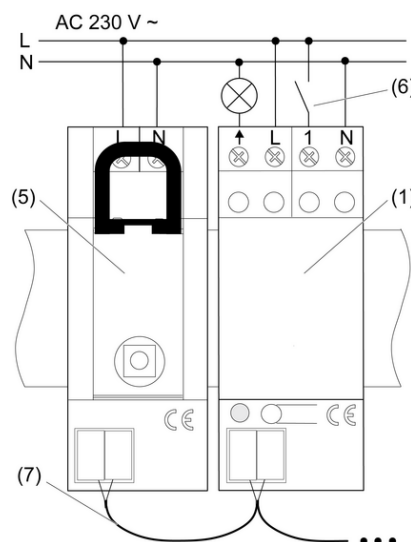

Figure 2
- i** The total length of the bus cables (7) between the devices may not exceed 3 m.
- i** The polarity of the bus cables (7) must not be reversed.
- Snap switch actuator (1) onto DIN rail.
- Connect switch actuator according to connection diagram (Figure 2).
- Connect switch actuator to the radio receiver RMD (5) using a bus cable.
- If necessary connect installation button (6) according to connection diagram (Figure 2).